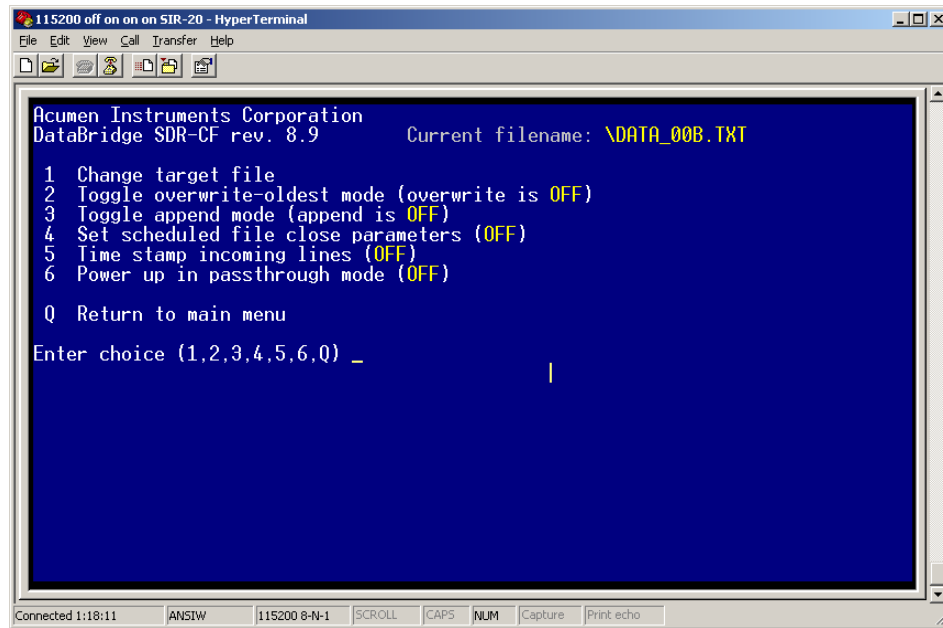

Figure 2: Recording Parameters menu.
- 4** Press **6** to view the Recording Parameters menu (Figure 2):